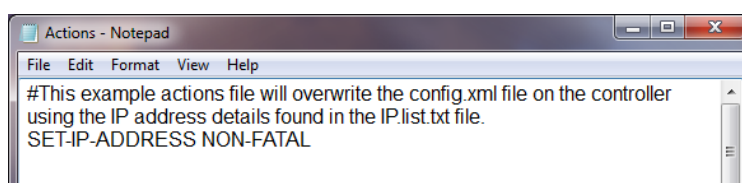

Fig 62. Example Actions.txt File to Change the Controller IP Address
- **Actions.txt** - Edit the Actions.txt file so that the only action is SET-IP-ADDRESS (see Fig 62.)